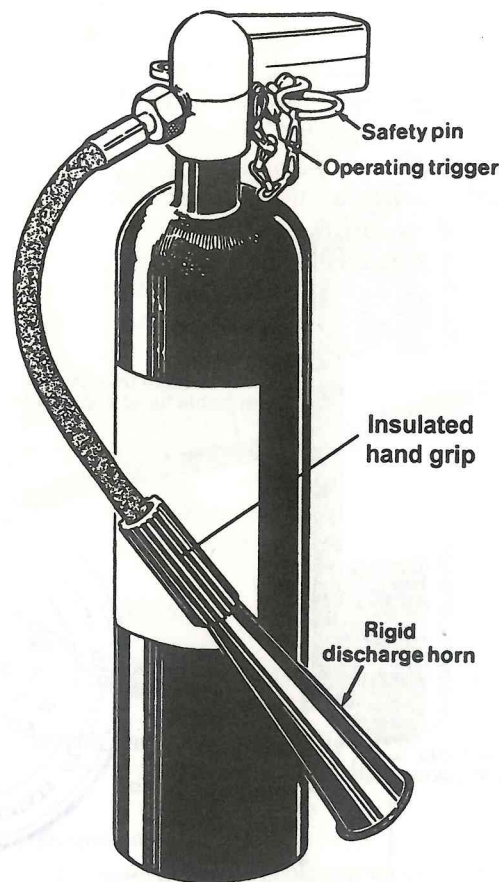

Fig 5-5. CO₂ Fire Extinguisher with Rigid Discharge Horn
c. Elsewhere in the ship CO₂ fire extinguishers fitted with a rigid horn are supplied for dealing with electrical fires (see Fig 5-5).